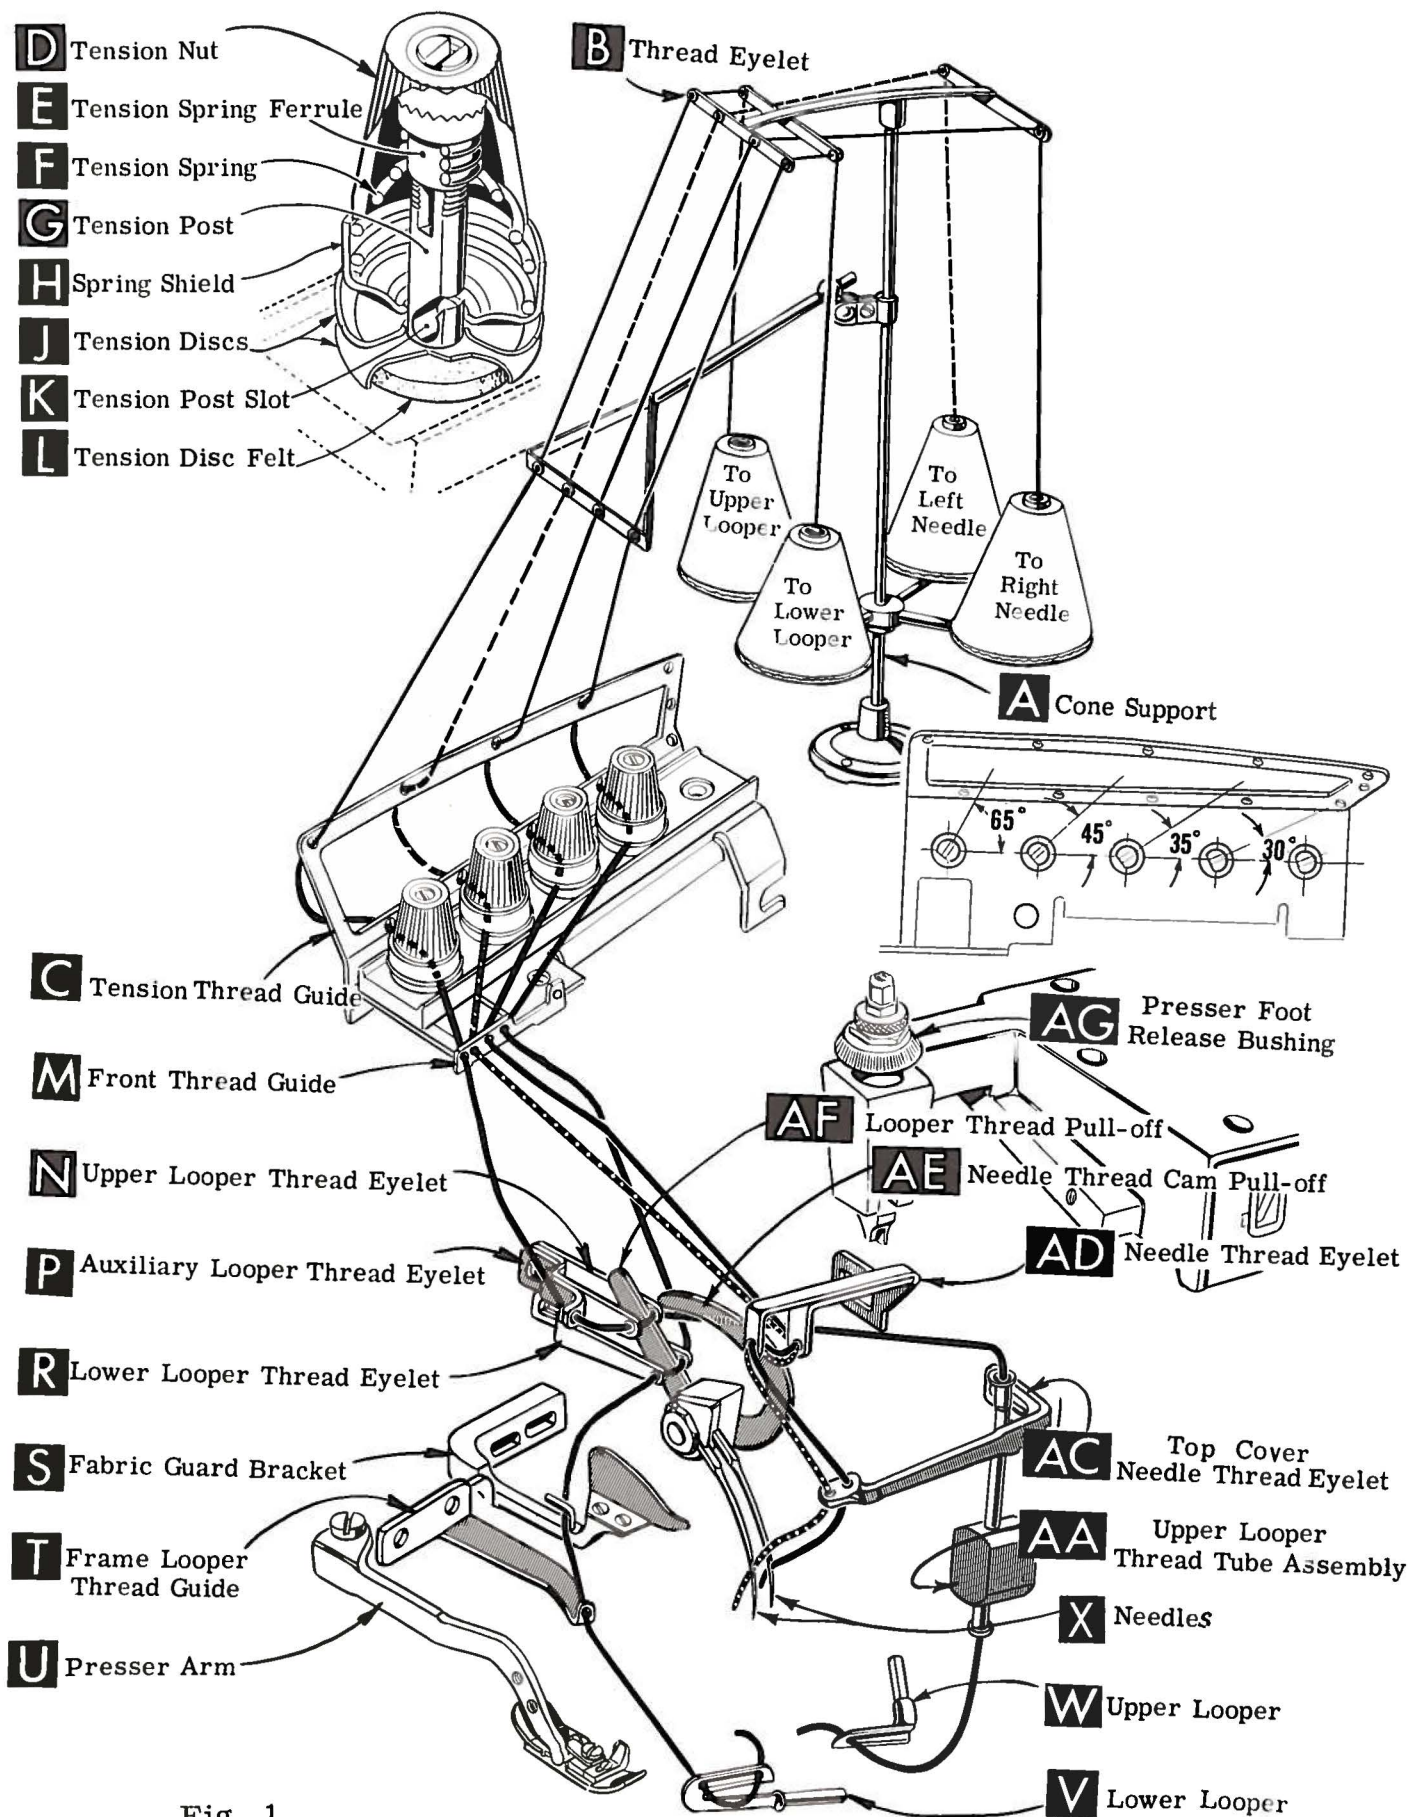

Fig. 1
Release pressure on presser foot by turning presser foot release bushing (AG, Fig. 1) and swing presser arm (U) out of position. Turn handwheel in operating direction until needles are at their lowest point of travel. Using hexagonal socket wrench No. 21388 AU, furnished with machine, loosen needle clamp nut about 1/4 turn. Again turn handwheel until needles are at high position. Withdraw needles.
After thread comes from cones on cone support (A, Fig. 1), the needle threads are threaded through the back bar of the thread eyelet (B), under the middle bar and through the center holes of the front bar. The looper threads come from the cones, through holes of the middle bar from back to front and then through the two outside holes of the front bar. Next it is threaded through the upper holes of tension thread guide (C) front to back and then through the lower holes from back to front. The threads continue between the tension discs (J), through tension post slot (K) in tension post (G) and on through front thread guide (M).
Only parts involved in threading are shown in the threading diagram (Fig. 1). Parts are placed in their relative positions for clarity.
Be sure threads, as they come from the tension thread guide (C) are between tension discs (J) and in diagonal slots (K) in tension posts (G). The tension posts should be positioned so the tension post slot will be at the approximate angle for the different threads as indicated in Fig. 1.
Double end of thread and lead it through both eyes of lower looper thread eyelet (R, Fig. 1) from right to left. NOTE: Thread must pass in front of looper thread pull-off (AF). Lead thread behind fabric guard (S) and through eyelet hole of frame looper thread guide (T). Turn handwheel in operating direction until heel of lower looper (V) is all the way to the left; then thread through both eyes from left to right. Left eye of lower looper can be threaded easily if tweezers are in left hand.
The amount of tension on needle and looper threads is regulated by tension nuts (D, Fig. 1). Tension on threads should be only enough to secure proper stitch formation.